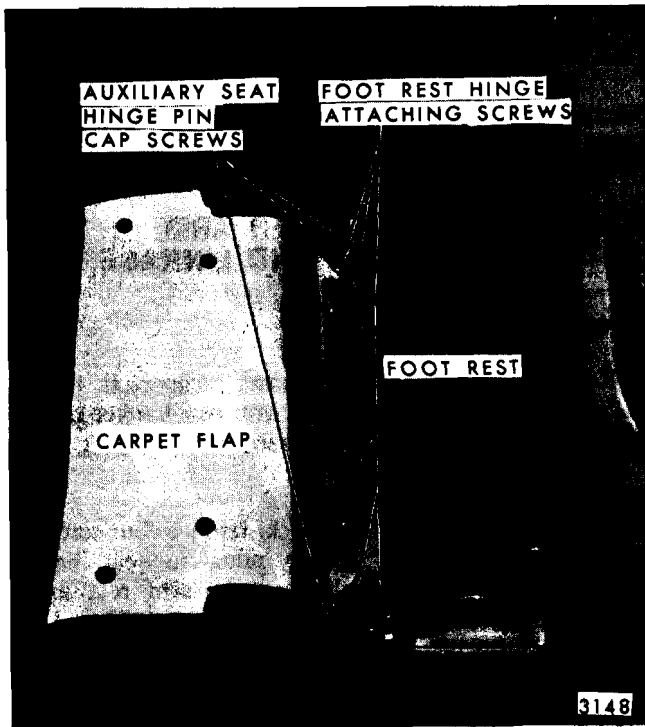

Fig. 14-56-Auxiliary Seat Assembly - Removal and Installation - Cadillac Limousine Styles
carpet flap. Move foot rest forward and carefully pull carpet flap from under foot rest, as shown in Figure 14-56.
3. Remove foot rest hinge attaching screws and remove foot rest assembly (Fig. 14-56).
4. Remove auxiliary seat hinge pin cap screws; then, remove cap and auxiliary seat assembly (Fig. 14-56).